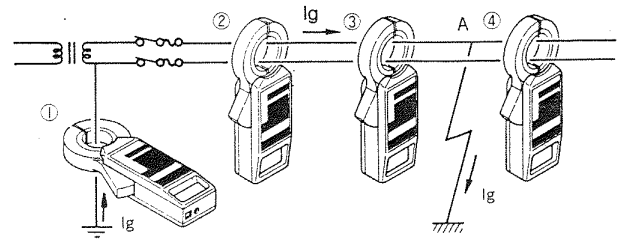

Fig. 7 Detecting Leakage Location
In the figure, if there is a leakage current at point (A). It will flow in the direction of the arrow (Ig). At points (1), (2), and (3) leakage will be detected but at point (4) no leakage will be detected. Therefore, the leakage must be occurring between points (3) and (4). (See Fig. 7)